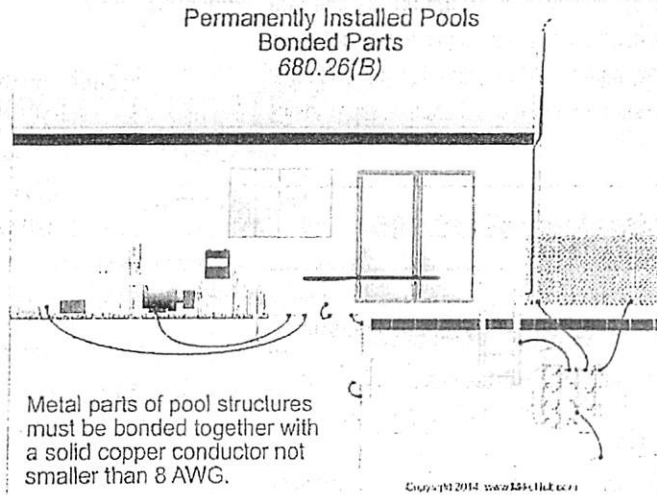

Figure 680-40
(B) Bonded Parts. The parts of a permanently installed pool listed in (B)(1) through (B)(7) must be bonded together with a solid copper conductor not smaller than 8 AWG with listed pressure connectors, terminal bars, exothermic welding, or other listed means in accordance with 250.8(A). Figure 680-40